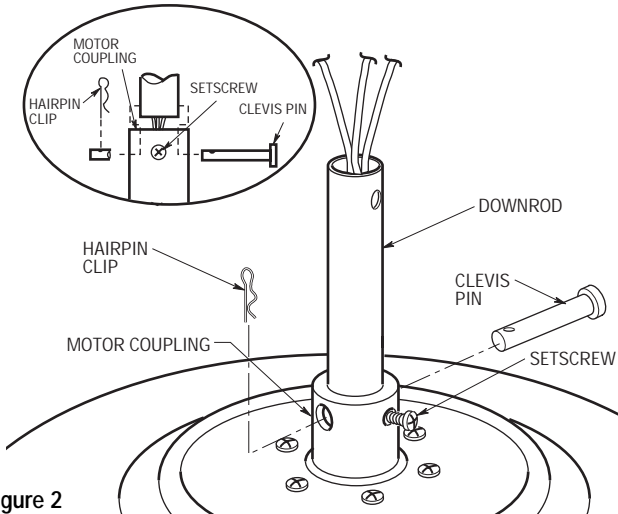

Figure 2
2. Unscrew the setscrew (Figure 2) until it clears the inside of the motor coupling. Then separate, untwist and unkink the three 80" motor leads. Route the motor lead wires through the downrod. Align the clevis pin holes in the downrod with the holes in the motor coupling. Install the clevis pin and secure with the hairpin clip (Figure 2). The clevis pin must go through the holes in the motor coupling and the holes in the downrod. Be sure to push the straight leg of the hairpin clip through the hole near the end of the clevis pin until the curved portion of the hairpin clip snaps around the clevis pin. The hairpin clip must be properly installed to prevent the clevis pin from working loose. Pull on the downrod to make sure the clevis pin is properly installed.
<p>It is critical that the clevis pin in the motor coupling is properly installed and the setscrew securely tightened. Failure to verify that the pin and setscrew are properly installed (as shown in Figure 2) could result in the fan falling.</p>
3. Tighten the setscrew (Figure 2) securely while pulling up on the downrod.